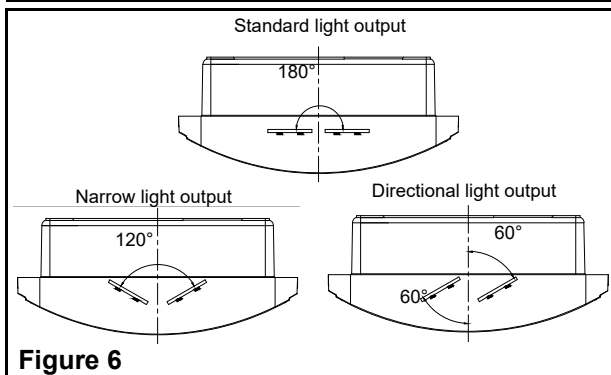

Figure 6
8. Adjust LED strips as required (see figure 6).